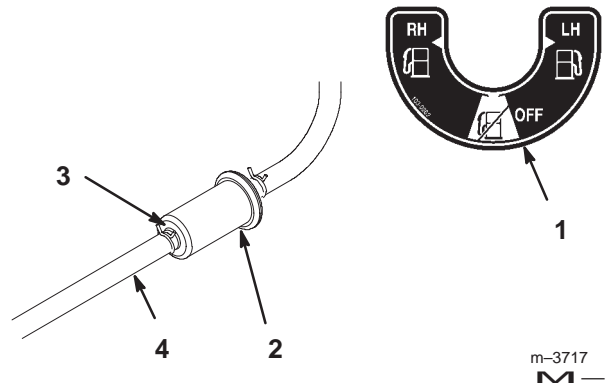

Figure 44
3. Loosen the hose clamp at the fuel filter and slide it up the fuel line away from the fuel filter (Fig. 44).
4. Pull the fuel line off fuel filter (Fig. 44). Open fuel shut-off valve and allow gasoline to drain into a gas can or drain pan.
5. Install the fuel line onto the fuel filter. Slide the hose clamp close to the fuel filter to secure the fuel line (Fig. 44).
2. Close fuel shut-off valve (Fig. 44).